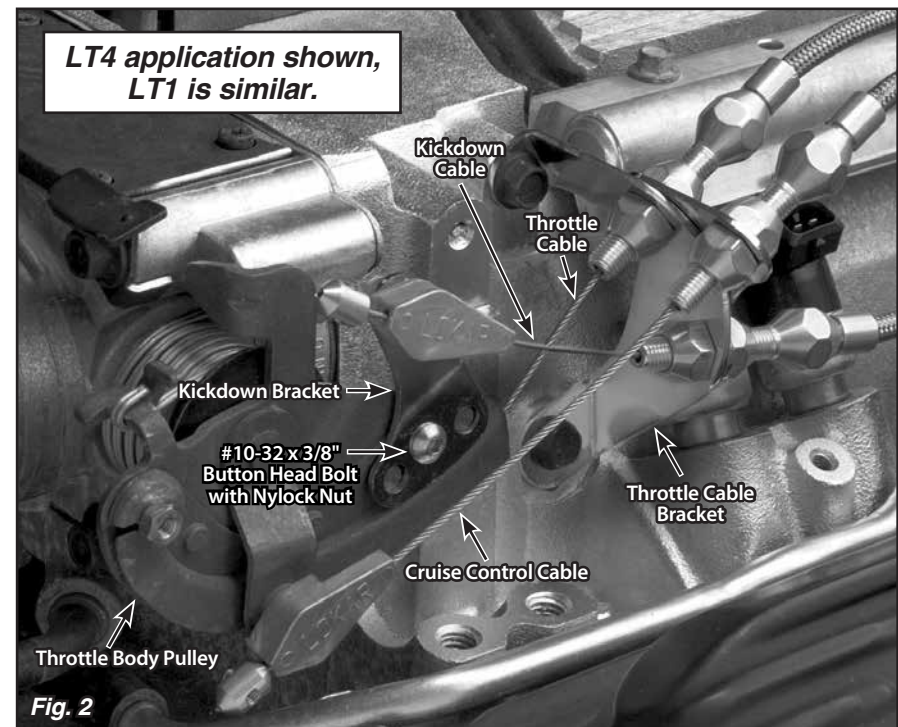

Fig. 2
Step 2: Install the new Lokar Throttle Cable Bracket in the same location as the original, using your original hardware, as shown in Fig. 2.
If you are using a Kickdown Cable, install it into the lower hole in the Throttle Cable Bracket. Connect it to the kickdown stud on the throttle body pulley. Adjust the Kickdown Cable as described in the Kickdown Cable Installation Instructions. Fig. 2 shows a completed installation with a Kickdown Cable and a Cruise Control Cable.